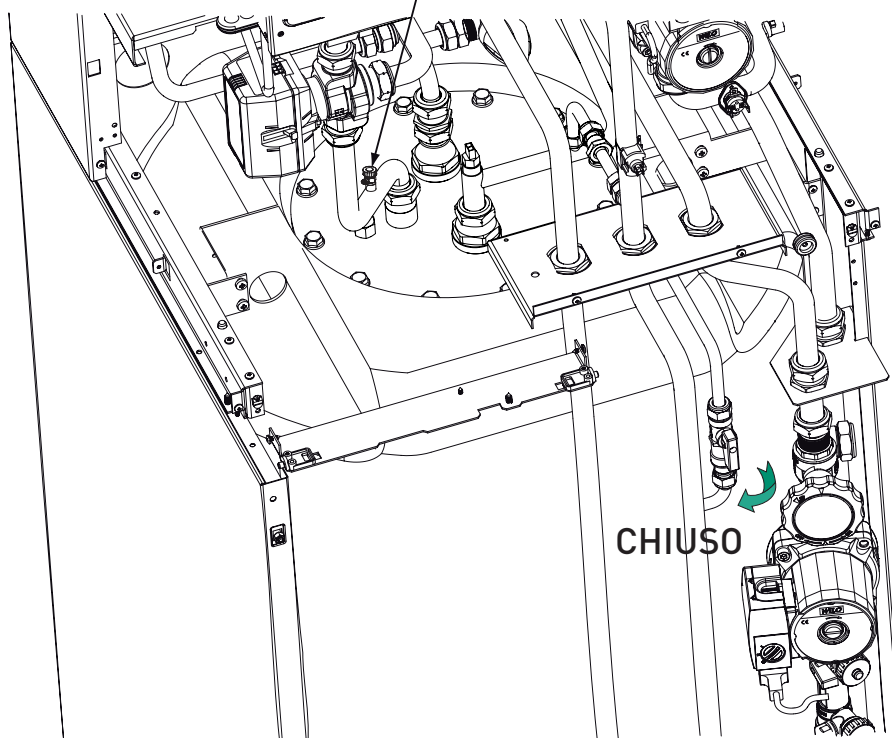

Fig. 26/a
– **ANOMALIA ALTA PRESSIONE ACQUA “ALL 03” (fig. 26/b)**